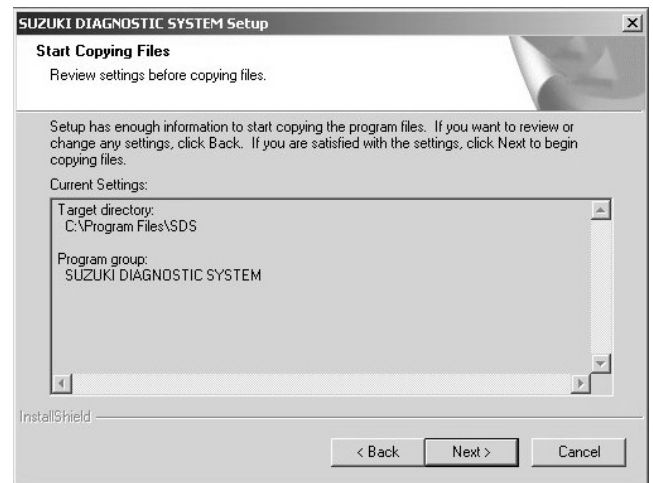

Fig.8
6. The confirmation window for the installation destination folder and program folder appears. (Fig.8)